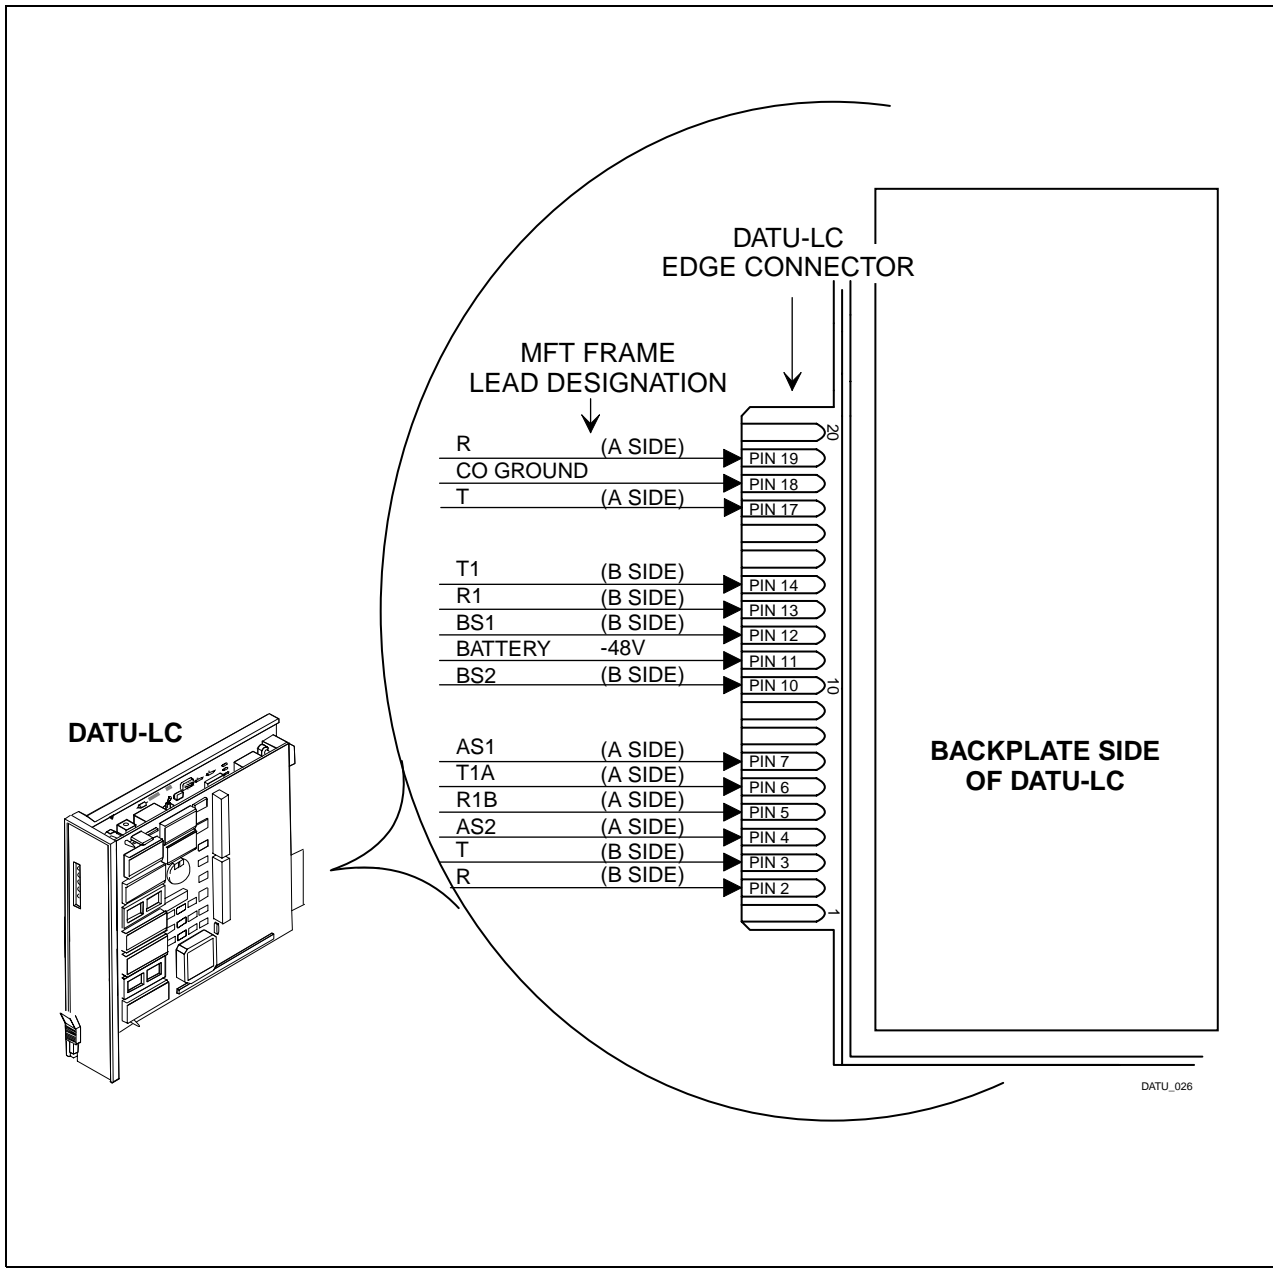

Figure 2-1. DATU-RT Card Pin Locations
- To provide an external ground source for the DATU-LC line conditioning functions, remove the J2 shorting pin and connect the appropriate ground to R1/B (A side) on the MFT bay (DATU-LC pin 5), refer to Figure 2-1.